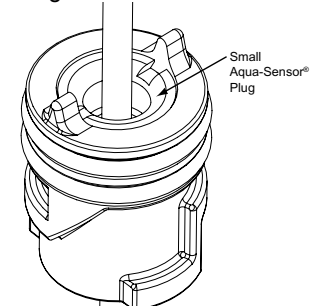

Figure 3. Aqua-Sensor plug.
2. Loosen the small Aqua-Sensor Plug; a needle-nose pliers works best. See Figure 3.